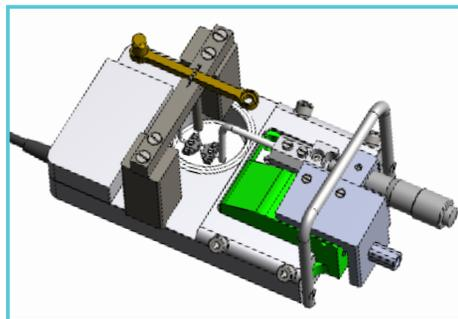

Figure 4.6 - Weight calibration kit shown in place on a single myograph chamber
2. Set up the calibration kit (bridge and balance) on one of the myograph chambers as illustrated in Figure 4.6. Also place the weight on one of the chambers. Turn the heat on as discussed in Chapter 3. The system takes about 20 to 30 minutes to reach 37 °C. Make sure adequate time is allowed so that calibration can be performed at the temperature at which the experiments will be performed. Placing the calibration kit and weight on the chamber allows them to warm up to the experimental target temperature. No need to bubble the chambers while waiting for the system to heat up.